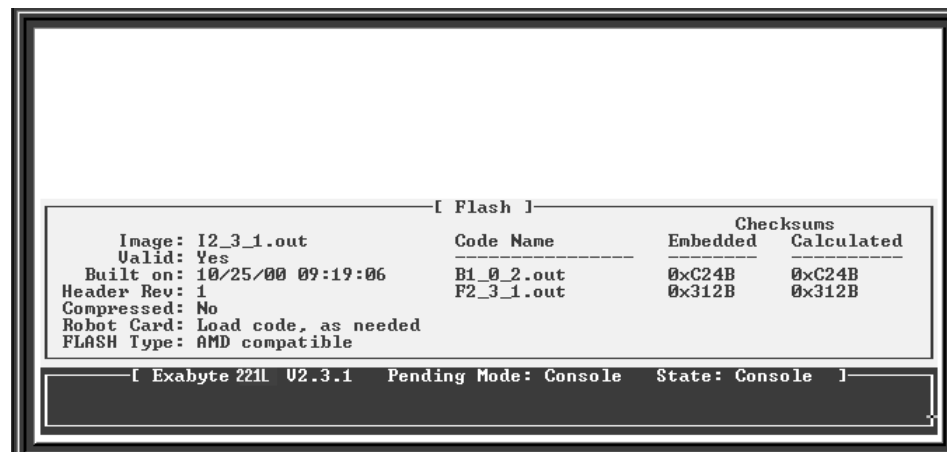

Figure 7-7 Console Flash screen
4. From Console, type `flash` and press Enter. This displays the Flash screen, as shown in Figure 7-7.